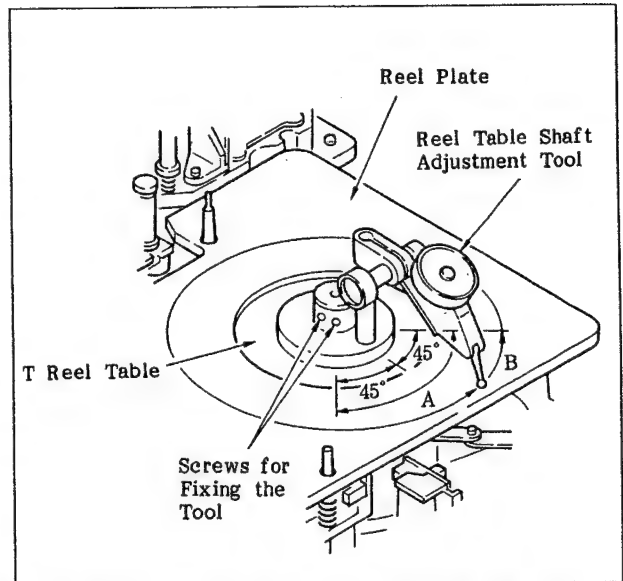

Fig. 6-33-1 Correcting the Deviation of the Reel Motor Shaft (1)
19. Set the reel plate and the reel table shaft adjustment tool. (Fig. 6-33-1)
20. Turn the reel table shaft adjustment tool in the direction of arrow B and check the pointer of the dial gauge indicates the maximum value in the range of A, shown in Fig. 6-33-1, and the difference between the maximum value and the minimum value of the dial gauge is less than 120 to 220 μ m. If it is not, make the following adjustments. Remove the tool.